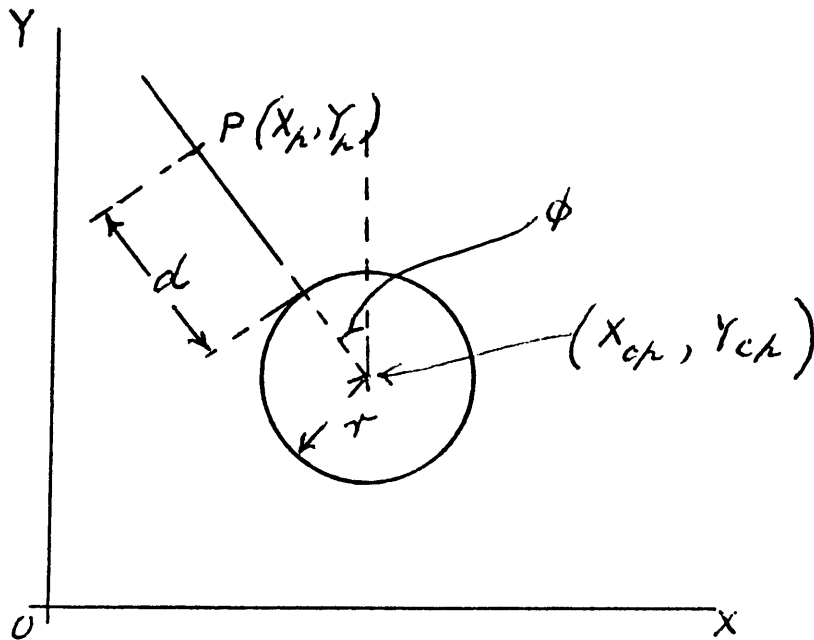

Figure 1
In Figure 1 let  $(X_{cp}, Y_{cp})$  be the measured coordinates of a dowel center in the reflector axis system (DAS). In Memo #187  $X_{cp}$  and  $Y_{cp}$  are found from Equation (1), but with  $YY$  chosen to be the measured value, rather than the nominal value.